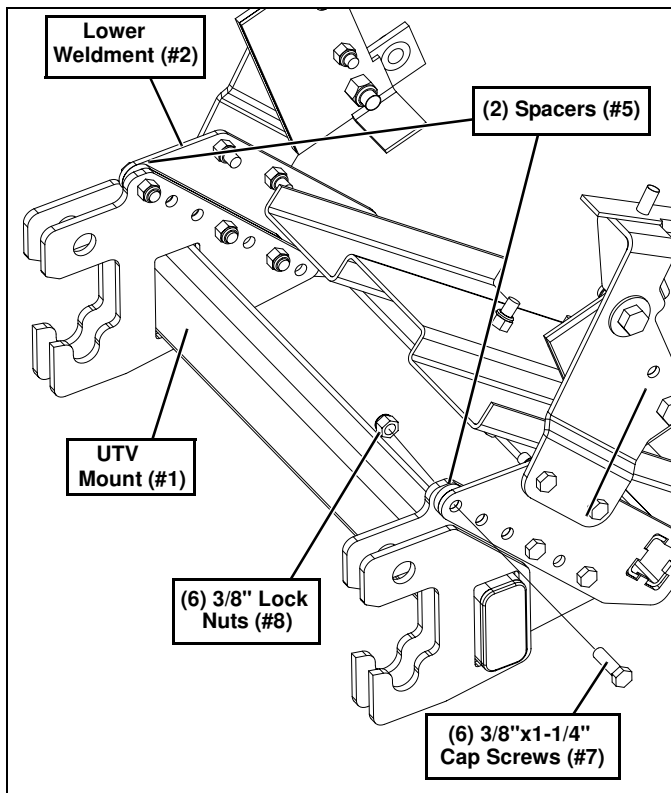

Figure 11
24. Position the UTV Mount (#1) on the machine. The UTV Mount (#1) goes between the brackets on the Lower Weldment (#2) with the (2) Spacers (#5) between the UTV Mount (#1) and the Lower Weldment (#2). (See Figure 11.)
26. Secure UTV Mount (#1) with (6) 3/8"-16x1-1/4" Cap Screws (#7) and (6) 3/8"-16 Lock Nuts (#8). Tighten all hardware. (See Figure 11.)